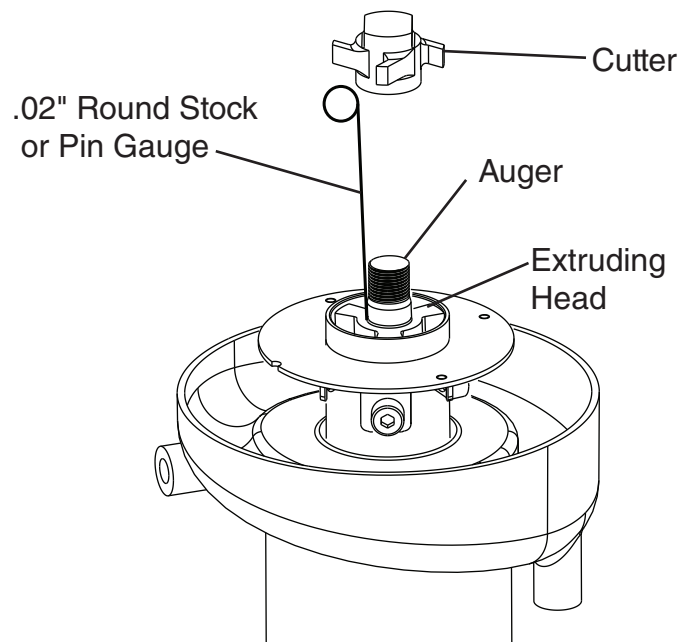

Fig. 6
- 5) Replace the bolt in the auger (if applicable). See Fig. 6. Move the auger towards you and then try to insert a .02" round stock or pin gauge in between the back side of the auger shaft and the bearing surface. Check several locations around the auger shaft. If the gauge goes between the shaft and the bearing at any point or if the bearing is scratched or cracked, both the top bearing in the extruding head and the lower bearing in the housing should be replaced. Instructions for removing the extruding head and housing are located later in this procedure.